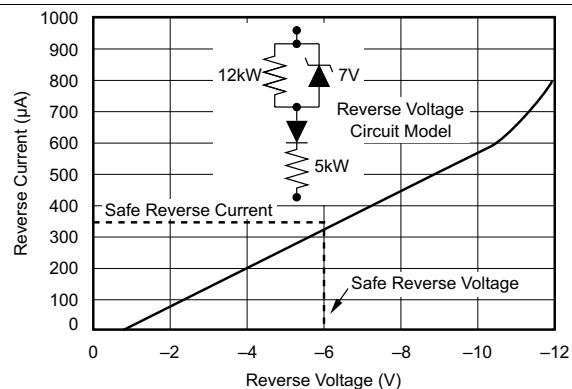
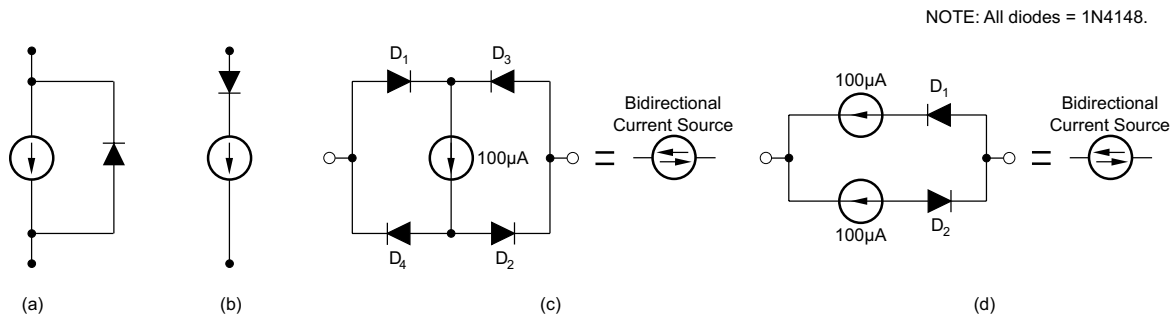

Figure 6. Current Source Reverse Current vs Reverse Voltage
Figure 17. Reverse Voltage Protection
If the current sources are subjected to reverse voltage, a protection diode may be required. A reverse voltage circuit model of the REF200 is shown in Figure 6. If reverse voltage is limited to less than 6 V or reverse current is limited to less than 350 μA , then no protection circuitry is required. A parallel diode (see (a) in Figure 17) protects the device by limiting the reverse voltage across the current source to approximately 0.7 V. In some applications, a series diode may be preferable (see (b) in Figure 17), because it allows no reverse current. This configuration, however, reduces the compliance voltage range by one diode drop.
(1) See Figure 17.